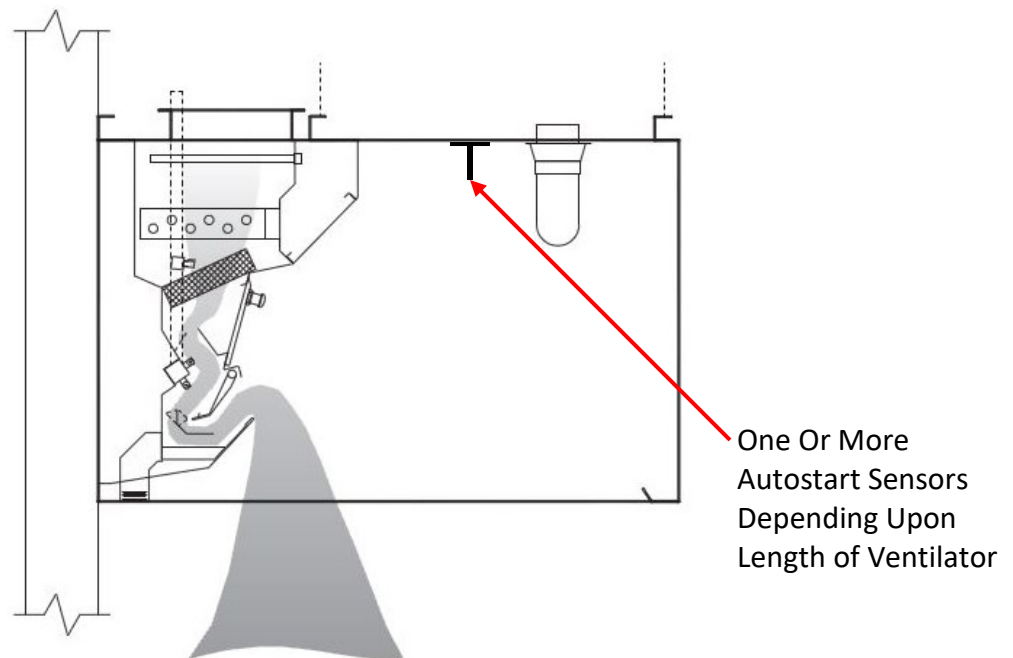

Figure 3-3-1
3. After baffle #1 fully opens (elapsed time approximately 45 seconds), the exhaust fan comes on (Refer to Figure 3-3-1). **Important Note:** Refer to your Command Center Technical Manual for specific text displayed after baffle #1 opens.
Note 1: Typically CG3-UVi Series Ventilators installed in the United States are equipped with a Gaylord Autostart Controller that automatically turns on the exhaust fan if the temperature at the sensors mounted in the canopy exceeds 90°F. (Refer to Figure 3-3-1). In some instances Ventilators installed outside the United States will include an Autostart Control. Inclusion of an Autostart Control is designated by the suffix “AS” in the model number. The Ventilator model number can be found on the Ventilator Nameplate (Refer to Appendix “A” for a sample of the Nameplate). Refer to your Command Center Technical Manual for complete information on the Autostart Control.
Note 1: If the Ventilator is equipped with a Gaylord Autostart Controller, the exhaust fan will stay on if the temperature at the sensor mounted in the canopy exceeds 90°F. (Refer to Figure 3-3-1). Once the temperature drops below 90°F., the fan will continue to run for 15 minutes and then shut off.